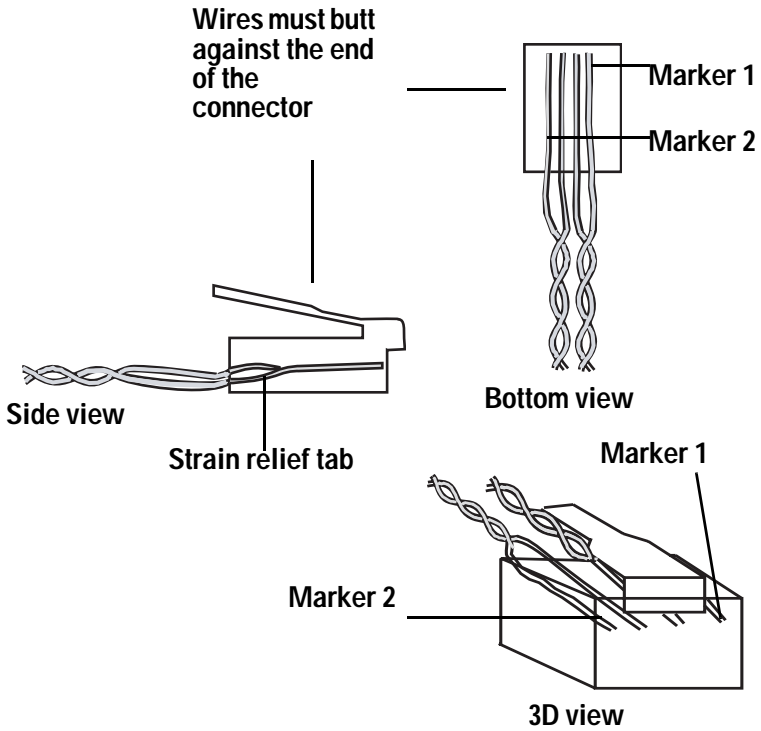

Figure 5-2: Inserting Wire into an RJH Connector
- look down at the wires from the top of the connector to check that the wires butt against the end of the connector (see Figure 5-2 on page 14, top view)